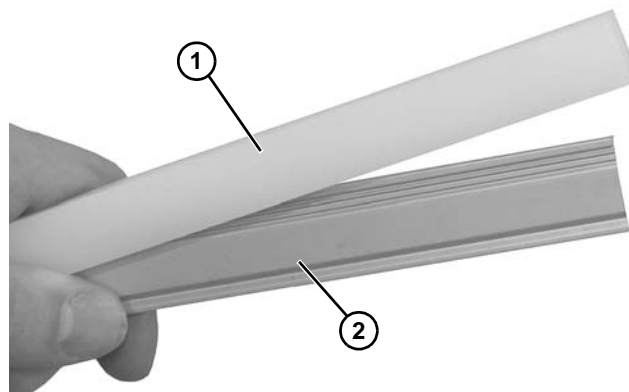

Figure 88
4. Attach slide rail (**Figure 88, item 1**) to guiding (**Figure 88, item 2**).